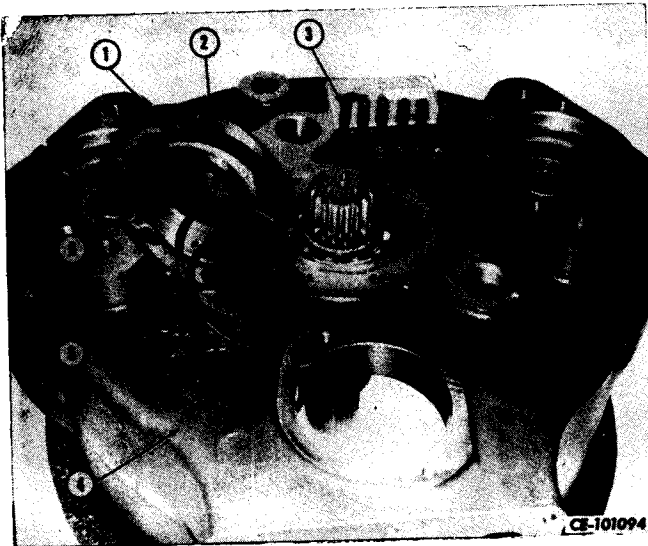

Figure 3-31
Remove cap screws and lock washers (3, Fig. 3-31) that secure bearing retainer (1) and ground sleeve hub to converter housing (4). Remove bearing retainer with seal assembly and shims (5). Drive seal (6) out of retainer. Discard seal and gasket (2).